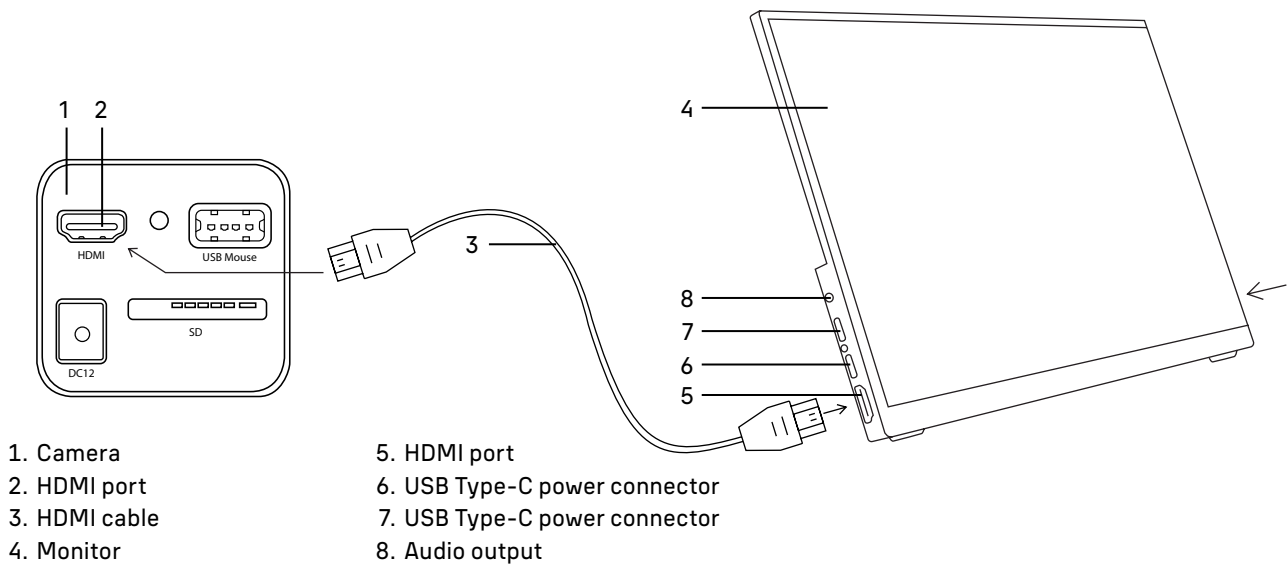

Fig. 6. Using the monitor
- Switch on the monitor by pressing the lower button on the side panel as indicated by the arrow (not shown in Figure 6).